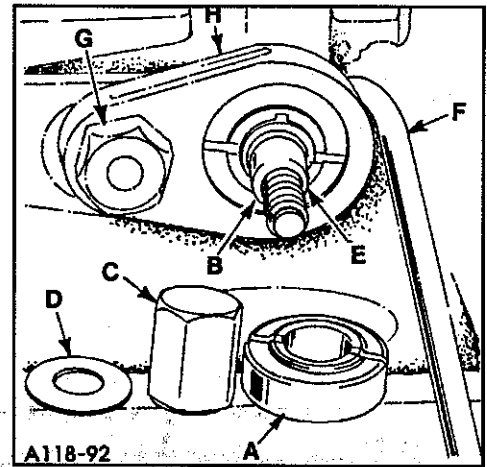

Fig. 19
Stitch length is determined by the combination of feed eccentrics used. The outer (left) eccentric (A, Fig. 19) actuates the main (rear) feed dog. The inner (right) eccentric (B) actuates the differential (front) feed dog.